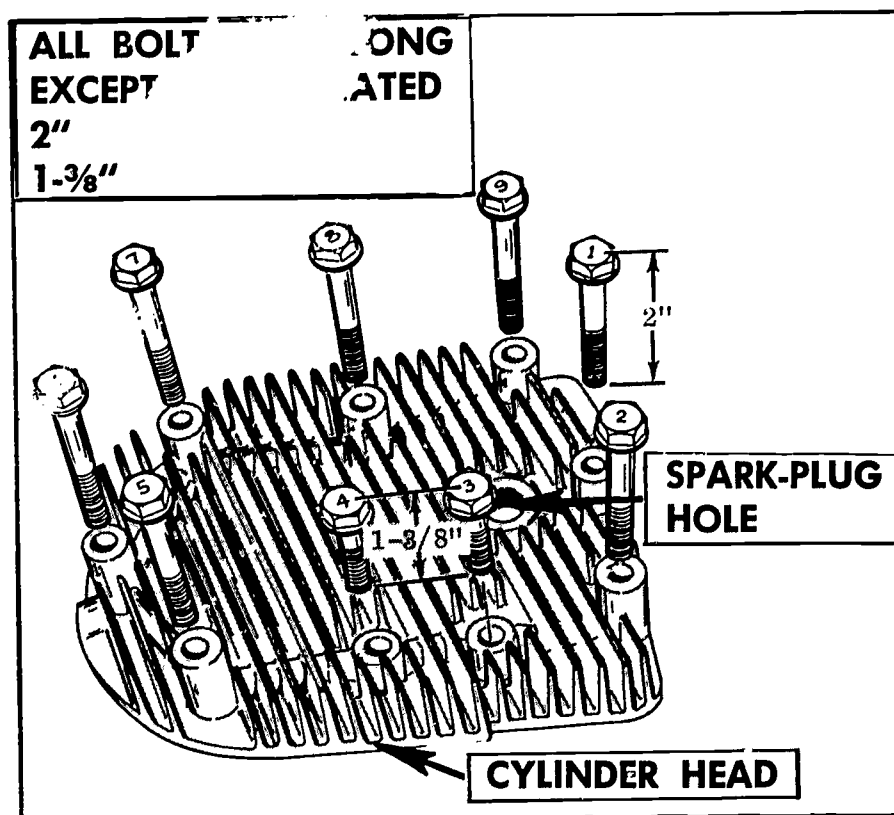

FIGURE 190. Cylinder-head bolts may be of different lengths for different positions.
7. Loosen and remove cylinder-head bolts (Figure 190).